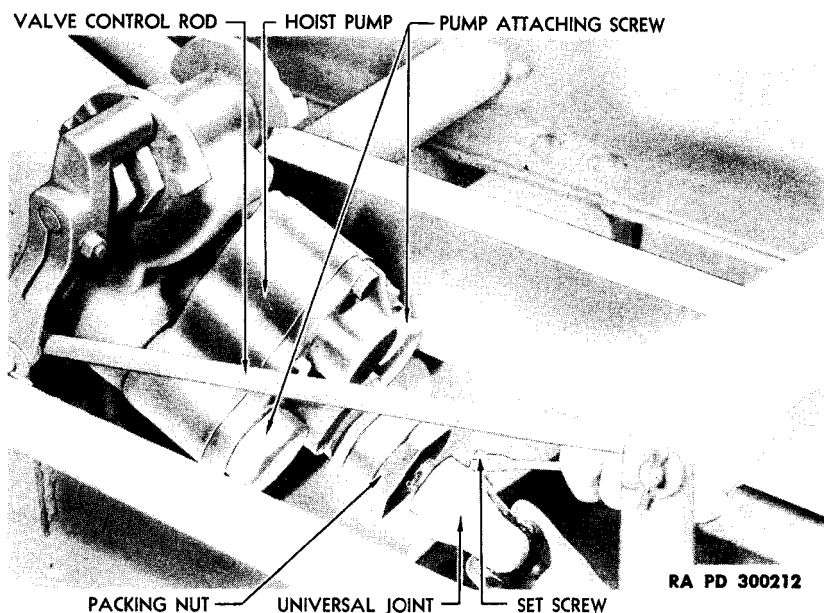

Figure 126—Galion Pump Mounting
(1) Disconnect drive line at pump shaft by removing yoke set screw and universal joint yoke.
(2) Disconnect valve control rod at pump lever.
(3) On Galion pump, remove the two large cap screws holding the pump to cylinder (fig. 126). It will be noted upon removal that the right-hand cap screw is the plain type, and the one to the left is the ball check cap screw. Care must be taken to see that these screws are replaced in their respective positions when the pump is replaced.
(4) On Anthony pump, remove pump to cylinder stud nuts and carefully work pump free of studs.